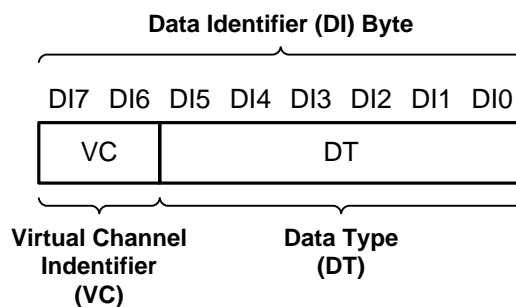

Figure 33. CSI-2 Data Identifier Structure
The DS90UB940N-Q1 MIPI CSI-2 protocol interface transmits the data identifier byte containing the values for the virtual channel ID (VC) and data type (DT) for the application specific payload data, as shown in Figure 33. The virtual channel ID is contained in the two MSBs of the data identifier byte and identify the data as directed to one of four virtual channels. The value of the data type is contained in the 6 LSBs of the data identifier byte.